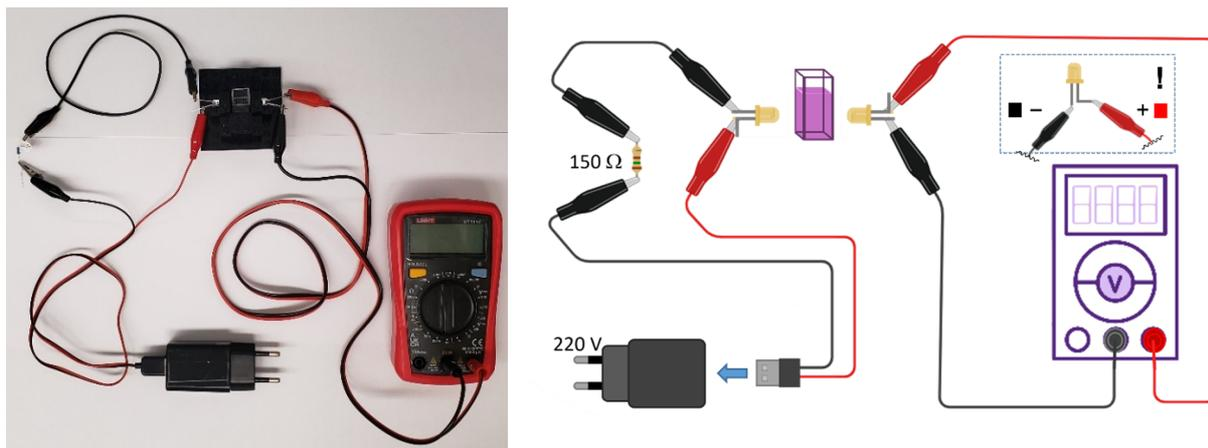

Figure 1.1. The instrument you will assemble today (left) and circuit diagram (right).
A photometer (more commonly a spectrophotometer) is an essential laboratory equipment with analytical applications. It is used to measure the light absorption of a specific wavelength in a solution, which allows to determine the concentration of the absorbing species (dissolved substance) in the sample. These instruments are expensive and often not available in schools. However, a very simple and cheap version of the instrument can be assembled from easily available parts – LEDs, wires, a phone charger, a multimeter, and LEGO bricks. That is your today's task. It is known that an LED connected to a power supply will light up, but it works also the opposite way – if one shines a light on the LED, a voltage will develop on it, which is approximately proportional to the intensity of light that reaches it. This is the basis for the light source and detector in the instrument you will assemble today (Fig. 1.1.).
3. Position the photometer far from the edge of the table and connect the circuit as shown in Fig. 1.1. *Note: Take care to connect the wires with the correct polarity, otherwise, the LED will not light.* The power supply will be provided after the lab assistant checks that everything is connected correctly.